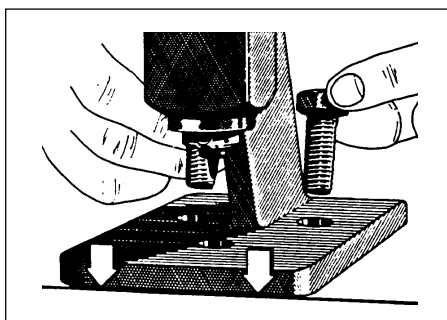

**Figure 10. Exposed Drive Link Tang**
**Note:** Adjust the chain tension each time the drive link tang hangs fully exposed from the groove at the bottom of the saw bar (figure 10).